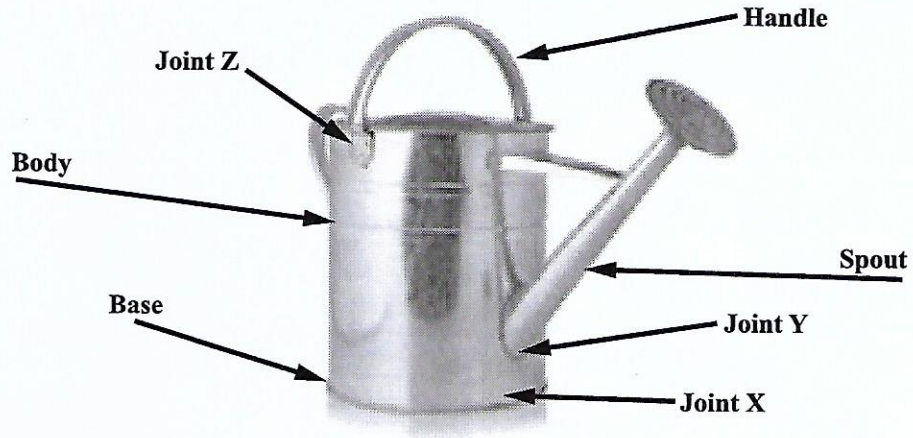

Figure 5. Watering can
5. Figure 5 shows a watering can made from 16 gauge tinplate. The can's primary use is to conveniently water plants in a home garden.